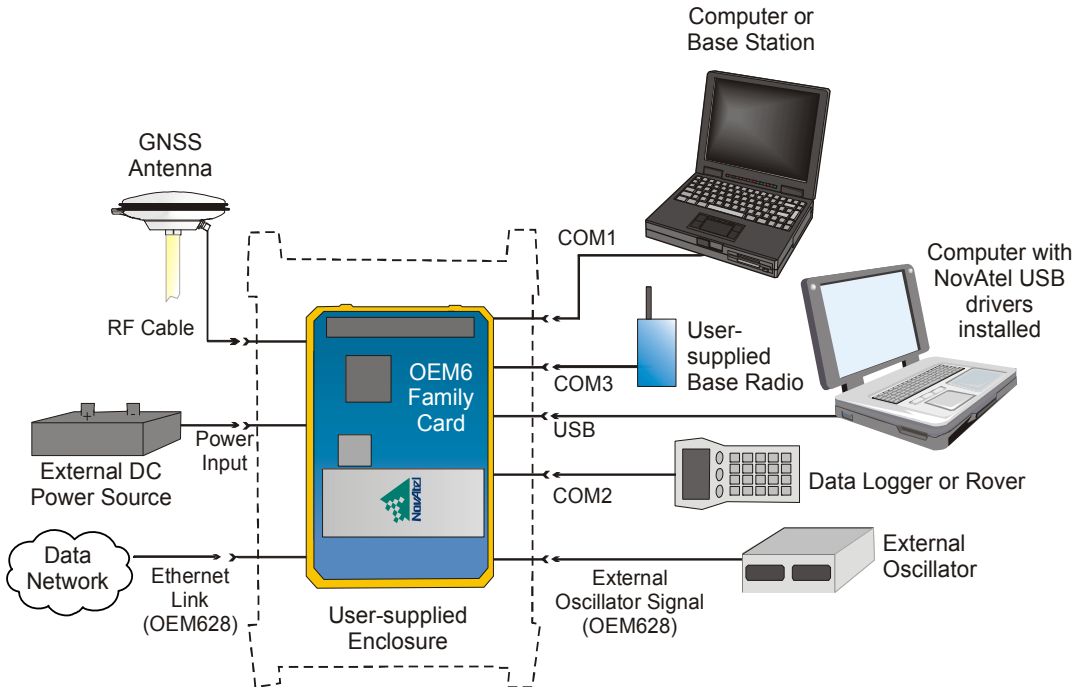

Figure 9: Basic OEM6 Family Card Connection Interfaces (example)
Before operating the receiver for the first time, read the installation instructions in *Chapter 2, Installation and Setup* starting on page 27. The following instructions are based on a configuration similar to *Figure 9*.
- Figure 9 does not show all necessary hardware